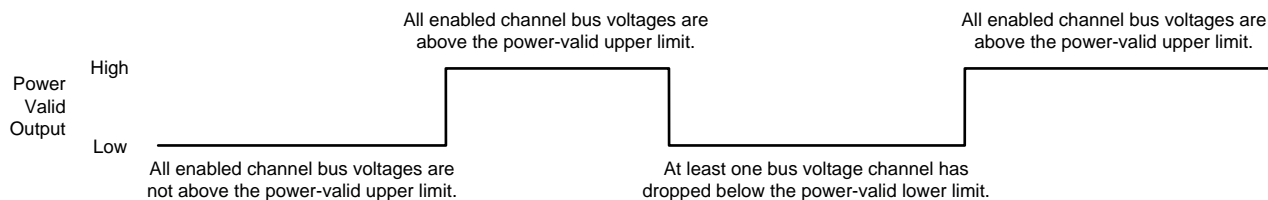

Figure 19. Power-Valid State Diagram
The power-valid alert verifies if all power rails are above the required levels. This feature manages power sequencing, and validates the reported measurements based on system configuration. Power-valid mode starts at power-up, and detects when each channel exceeds a 10-V threshold. This 10-V level is the default value programmed into the Power-Valid Upper-Limit register. This value can be reprogrammed when the INA3221 is powered up to a valid supply-voltage level of at least 2.7 V. When all three bus-voltage measurements reach the programmed value loaded to the Power-Valid Upper-Limit register, the power-valid (PV) alert pin pulls high. PV powers up in a low state, and does not pull high until the power-valid conditions are met, indicating all bus-voltage rails are above the power-valid upper-limit value. This sequence is shown in Figure 19.